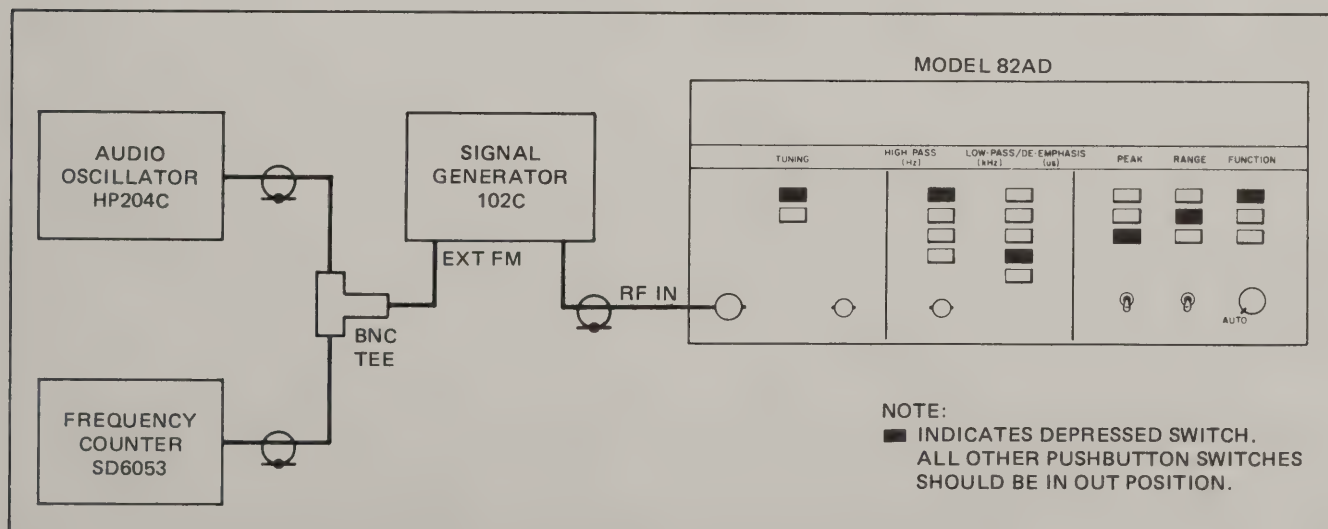

Figure 2-19 High Pass Audio Frequency Response Check, Test Setup
a. Connect the Model 82AD and test equipment as shown in Figure 2-19.
c. Set the Model 82AD LEVEL control to the AUTO position, and depress the Model 82AD switches as shown in Figure 2-19, except select the 15 kHz lowpass filter.